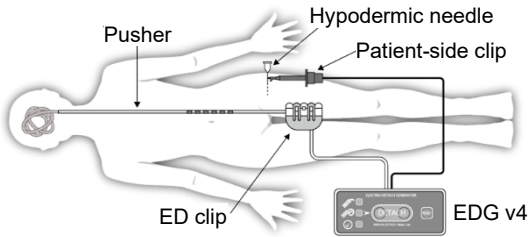

Figure 4. Wire connections amongst the i-ED COIL, the EDG v4, and a hypodermic needle placed in the patient
1. If the red lamp will not turn off and the green lamp will not become lit on the EDG v4 even though the proximal end of the radiopaque marker of the pusher reaches the second marker (proximal side) of the microcatheter, under X-ray fluoroscopy, check each connection shown in Figure 4. If no abnormalities are noted in any of the connections, replace this i-ED COIL with a new one.
- (3) Press DETACH buttons (both the right and the left buttons simultaneously) of the EDG v4 while the green lamp of the EDG v4 is lit, and then, the detaching output will be generated for 5 seconds to detach the coil. While the detaching output is generated, the green lamp blinks and the buzzer beeps intermittently.
- (4) If the EDG v4 could not generate sufficient detaching output, the RETRY sign appears. If the RETRY sign appears, reduce the power to push the pusher and adjust the position of the detachable part of the i-ED COIL, and try again the coil detachment (press both DETACH buttons simultaneously) while the green lamp is on.
- (5) Slowly and carefully pull back the pusher to confirm if the coil detachment was completed using X-ray fluoroscopy.
- (6) If the coil did not detach, press the RESET button and repeat the above procedure 4) after checking the position of the detachable part again.